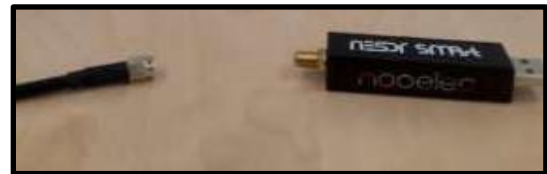

Figure 2: The ends of the antenna (left) and dongle (right) are connected.
3. Screw the connector at the end of the antenna cable to the matching threaded connector on the dongle (Figure 2).